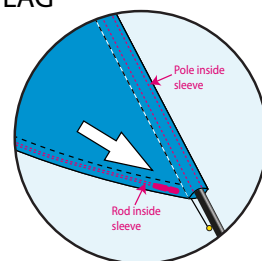
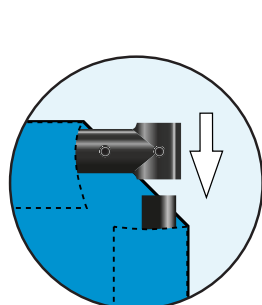

Fig 9.
Fig 10.
9. Push the carbon rod completely into the sleeve right down to the bottom, (Fig 9) this enables you to mount the arm T joint over the vertical 28mm pole section. (Fig 10)